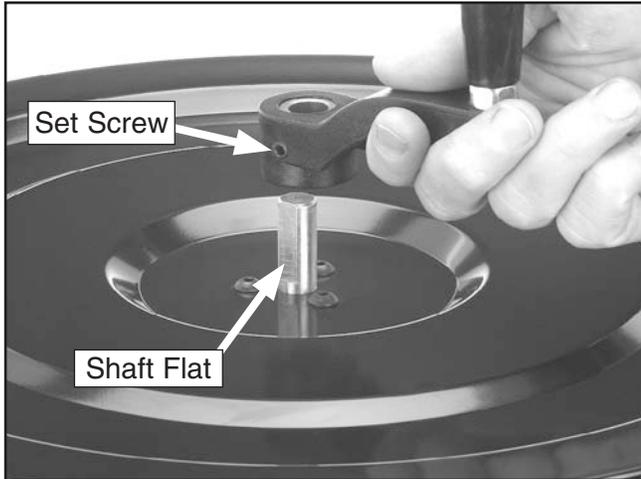

Figure 13. Installing canister handle.
8. Install the handle onto the top of the canister and tighten the set screw against the flat of the shaft (**Figure 13**).